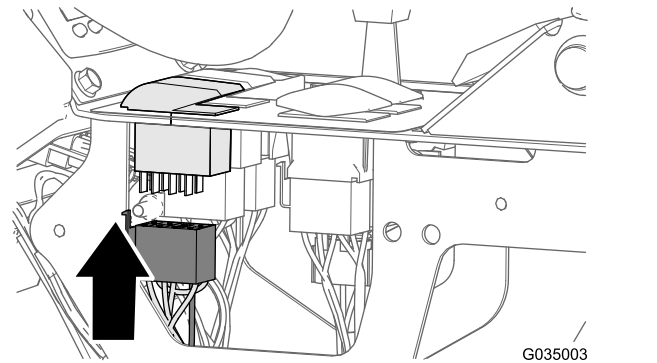

Figure 117
4. Connect the 8-socket connector if the wire harness with the 8-pin connector if the sprayer-pump switch (Figure 117).
5. Secure the 81 cm (32 inch) branch of the rear-wire-harness to the front wire harness of the machine as shown in Figure 117.